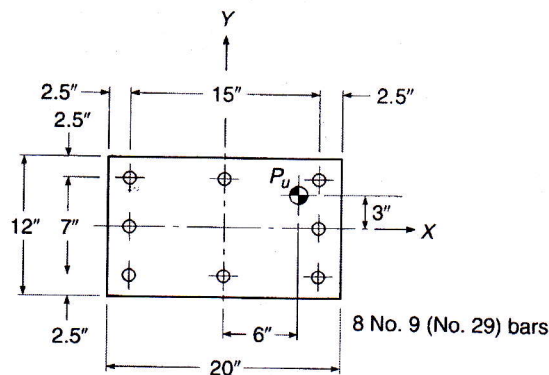

Fig: 3
- [3] Calculate horizontal deflection at F of the frame shown in Fig. 3 by using Virtual Work Method. Given, $EI = 29 \times 10^5 \text{ k-in}^2$.
4. Examine the adequacy of a 12" \times 20" column shown in **Fig: 3** reinforced with 8 #9 bars. A factored load of 255 kips is to be applied with eccentricities $e_y = 3$ in and $e_x = 6$ in as shown. Use reciprocal load method. Given: $f'_c = 4$ ksi, $f_y = 60$ ksi.